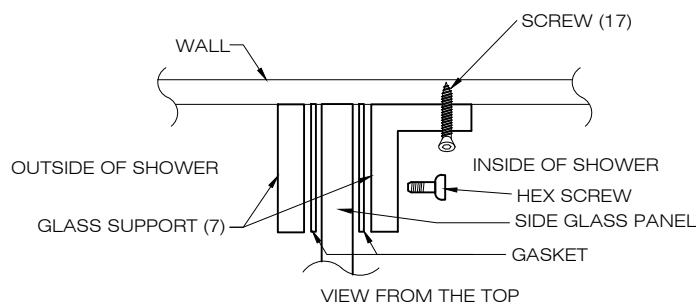

FIG.6
4. Screw in the glass support (#7) to the side glass panel using the hex key (supplied) making sure to slide it back as far as possible from the glass before you tighten. The part that connects to the wall should face in. [SEE FIG.6] Be sure to use gaskets on both sides of the panel. The glass holes are elliptical allowing for 5mm out of square.